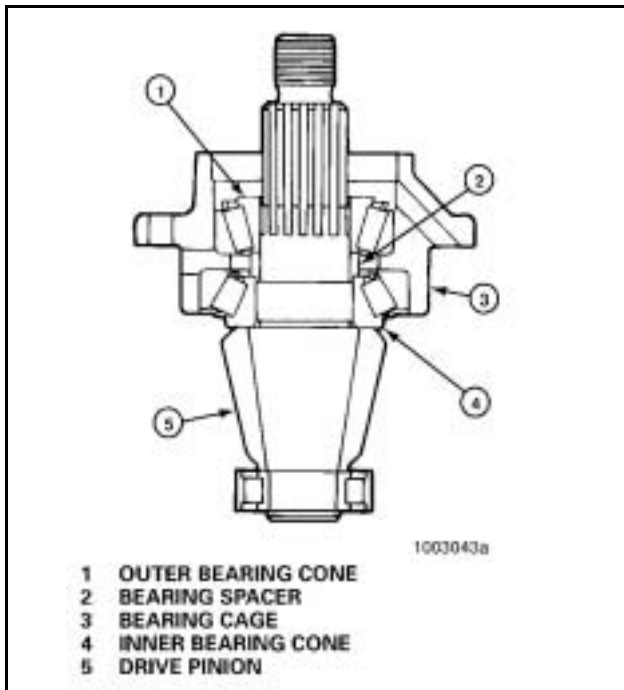

Figure 62
11. Install the bearing spacer or spacers on pinion shaft against the inner bearing cone. **Figure 62.**
12. Install the outer bearing cone on pinion shaft against the spacer. **Figure 62.**